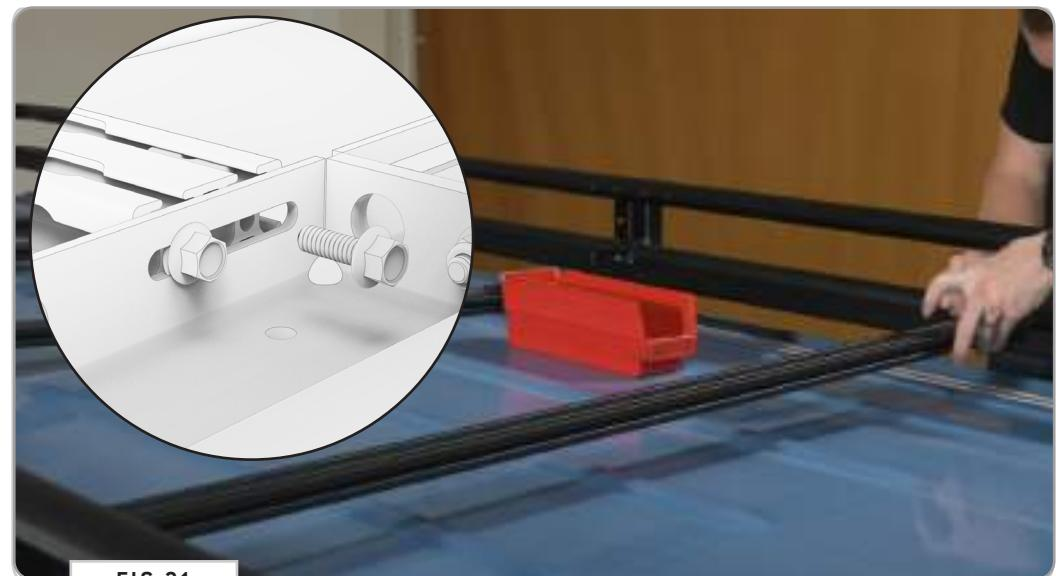
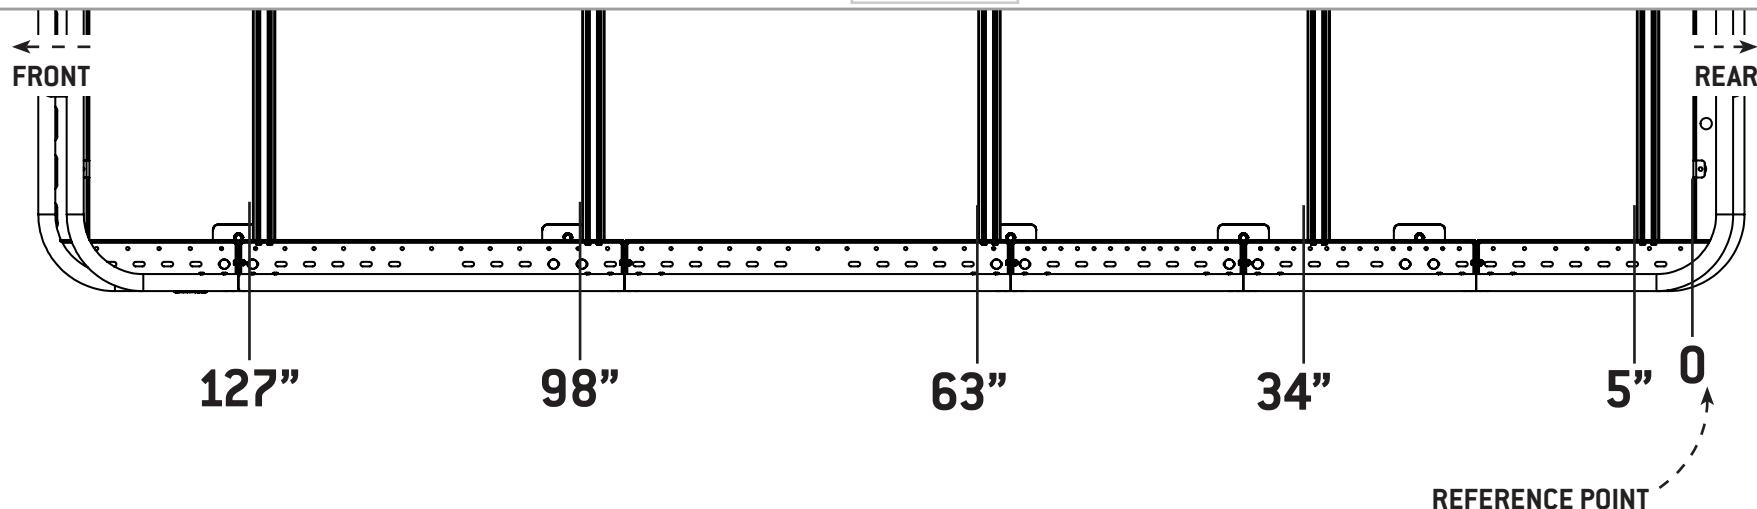

FIG 21
FIG 22
9.1 Attach Crossbars: Using (4ea) 1/4-20 Flanged Hex Bolts with Loctite (FIG 21), attach Crossbars to the rack in the locations shown in FIG 22. Be sure to measure both sides to ensure that the crossbars are square.